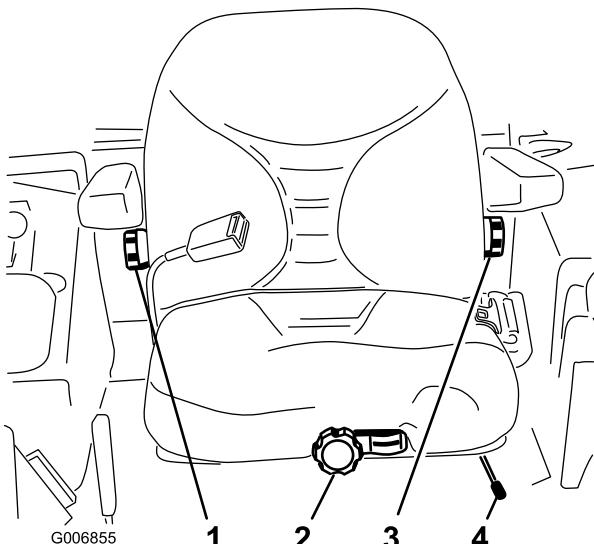

Figure 49
1. To adjust, move the lever sideways to unlock the seat (Figure 49).
Without sitting on the seat, turn the knob in front either direction to provide the best comfort (Figure 49).
To adjust it, turn the knob, under the right-side arm rest, in either direction to provide the best comfort (Figure 49).
To adjust it, turn the knob under the left-side arm rest, in either direction to provide the best comfort (Figure 49).